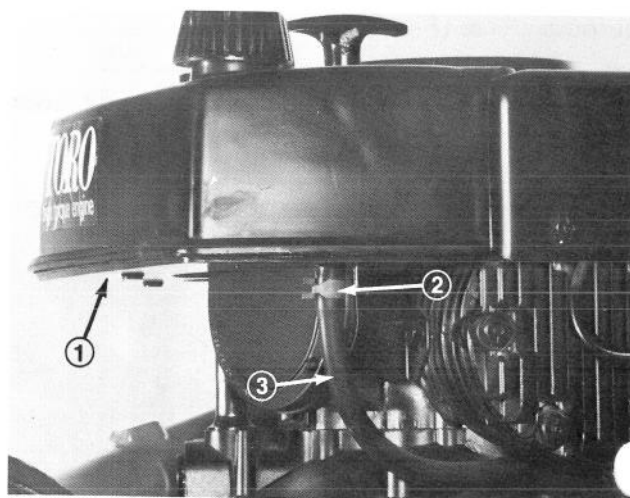

Figure 29
1. Compress clip holding fuel line on fuel tank fitting (Fig. 29). Slide clip down fuel line.